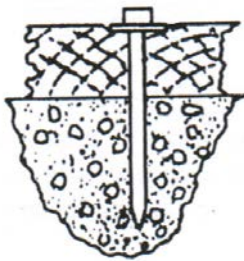

Fig. 14A
A. Fastening relatively soft material (wood, insulation, etc.) permanently to concrete (Figs. 14A, 14B, 15).